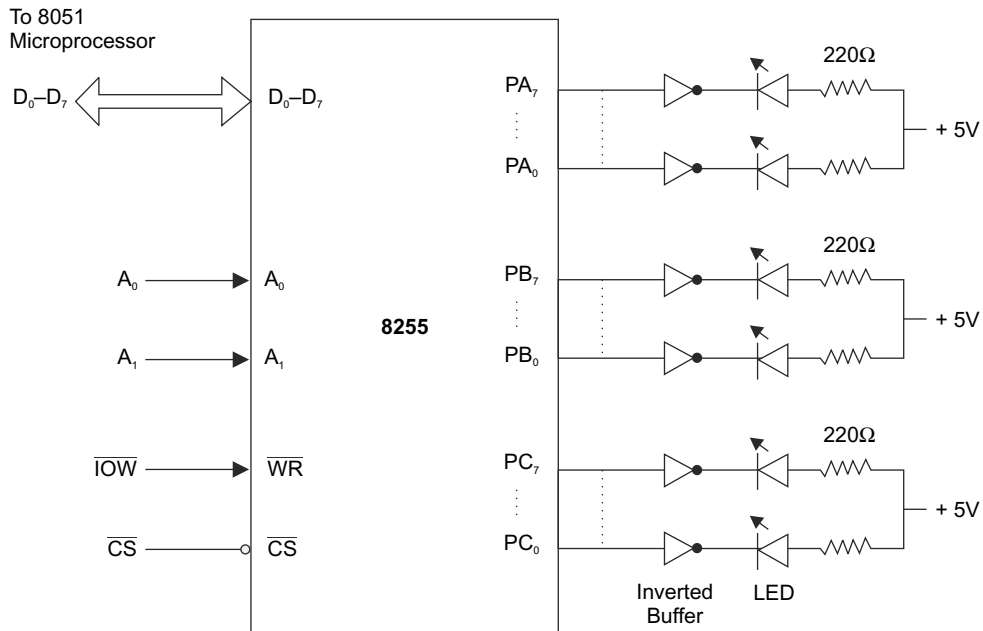

Fig. 14.12 The interfacing circuit for traffic-light control
forward arrow, right arrow and left arrow are used in this scheme. The forward, right and left arrows are used to indicate forward, right and left movement respectively. The red (R) signal is used to stop the traffic in the required lane and the yellow (Y) signal is used as standby, which indicates that the traffic must wait for the next signal. The green (G) light for a particular lane remains on for DELAY-1 seconds followed by the standby signal for DELAY-2 seconds. However, at a time, 3 out of the 4 roads, the left signal or the left arrow remains ON even though that lane may have a red signal. The traffic light control is implemented using an 8051 microcontroller kit having 8255 on board, and the interfacing circuit is illustrated in Fig. 14.12. Each signal is controlled by a separate pin of I/O ports. The total number of logic signals required for this arrangement is twenty-four. The programmable peripheral interface device 8255 is used to interface these 24 logic signals with the lamps. The logic '0' and '1' represent the state of the lamp. Logic '1' represents ON and '0' represents OFF. All ports of 8255 are used as output ports. The control word to make all ports as output ports for Mode 0 operation is 80H. The traffic light control program can be written by the following steps: